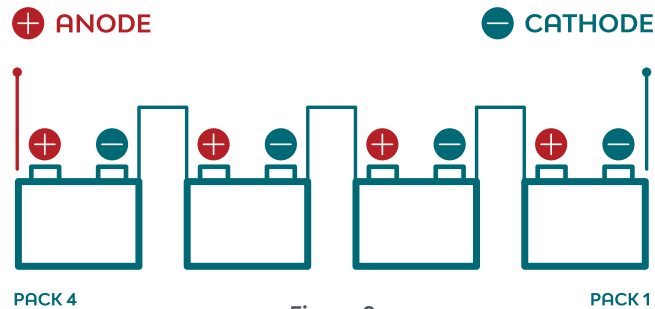

Figure 2
3. Connect the batteries using cables of sufficient width to carry current required (6 gauge <50A/10 gauge <100A) as per **Figure 2**